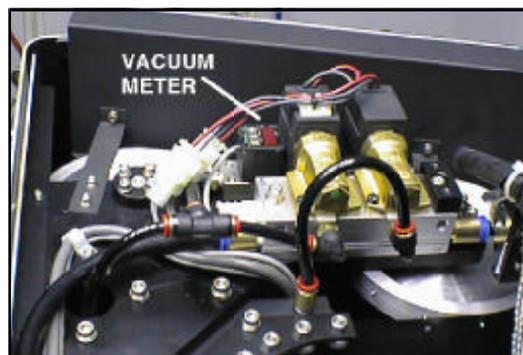

Figure 6-2. Vacuum meter.
- 2) Record the number on the vacuum meter, Figure 6-2. This number should be within the range listed on the initial installation checklist. If it is not within this range, contact an MSC/Rigaku service technician.